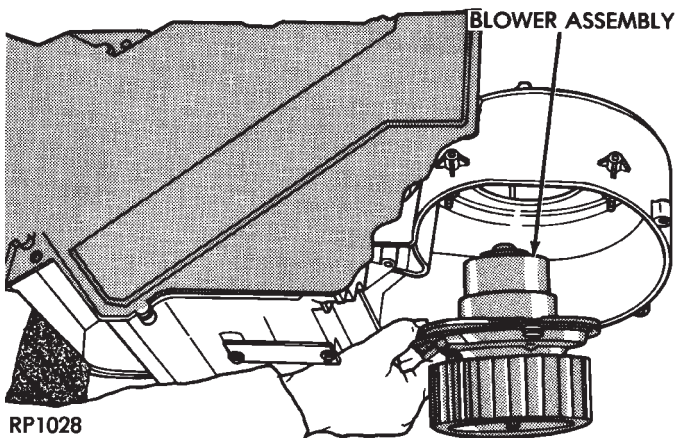

Fig. 4 Blower Motor and Wheel Assembly
- (6) Remove three screws securing the blower and wheel assembly to the heater or A/C unit housing. Then separate the assembly from the unit (Fig. 4).